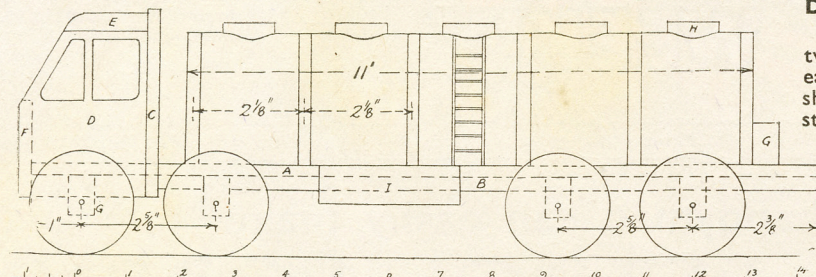
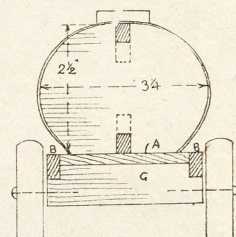

Fig. 2—Side elevation with dimensions of parts
Fig. 5—Rear section
In Fig. 2 is given a scale diagram of the side view with certain dimensions added which will help in the construction. Beneath this diagram is added a scale, and the idea of this is to help in scaling off some of the parts which may not be exactly clear to the worker. With the aid of a pair of dividers or even a pair of compasses it is quite a simple matter to span the required parts and hold the instrument on the scale.
The front one needs cutting down a little in excess of the others to fit between the sides of the cabin. The rear three axles fit in between the sides (B) and are notched out to fit round them as seen in the cross sectional view, Fig. 5. Get the axles square across the floor by first marking their positions and then add screws to make a good firm fixing through the floor. The proper spacing of the axles is given in Fig. 2.
The length overall of the tank is 11 in., and it is made of four shaped uprights held together by two rails and afterwards covered round with stout card or thin plywood if this can be obtained. Each of the uprights is elliptical in shape, the two diameters being those shown in Fig. 5.